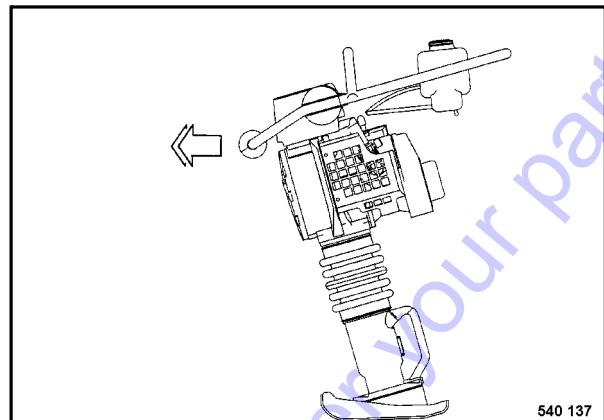

Fig. 3
- The travel speed can be influenced by altering the load on the steering handle (Fig. 3).